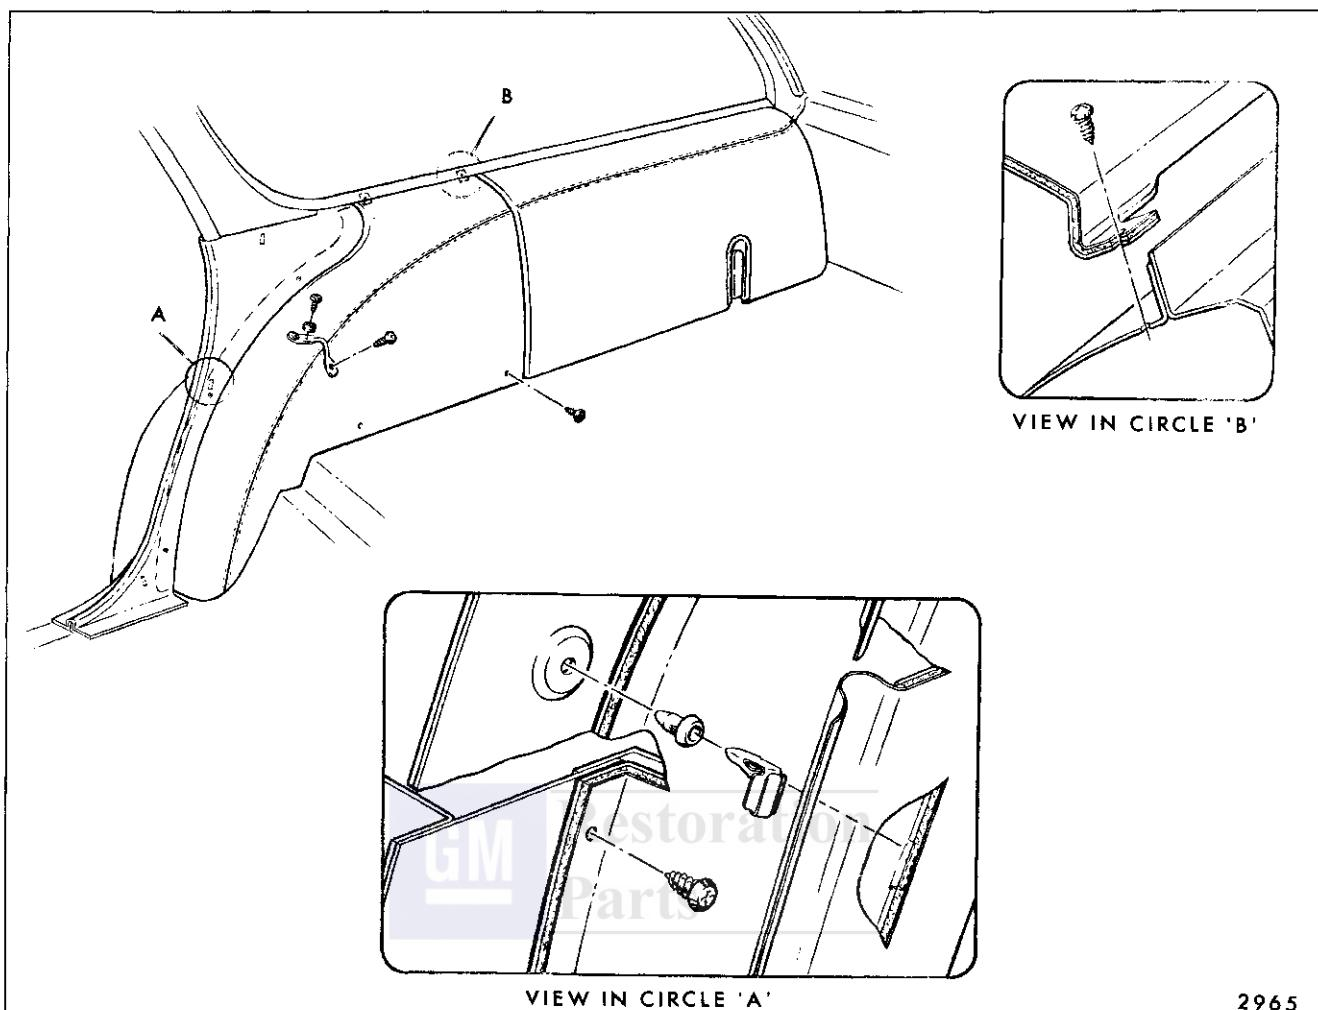

Fig. 14-32—Wheelhouse Cover Panel (Right Side) — "A" Station Wagons
3. Remove all trim attaching screws at front, rear and bottom of wheelhouse trim panel and remove panel (Fig. 14-32).